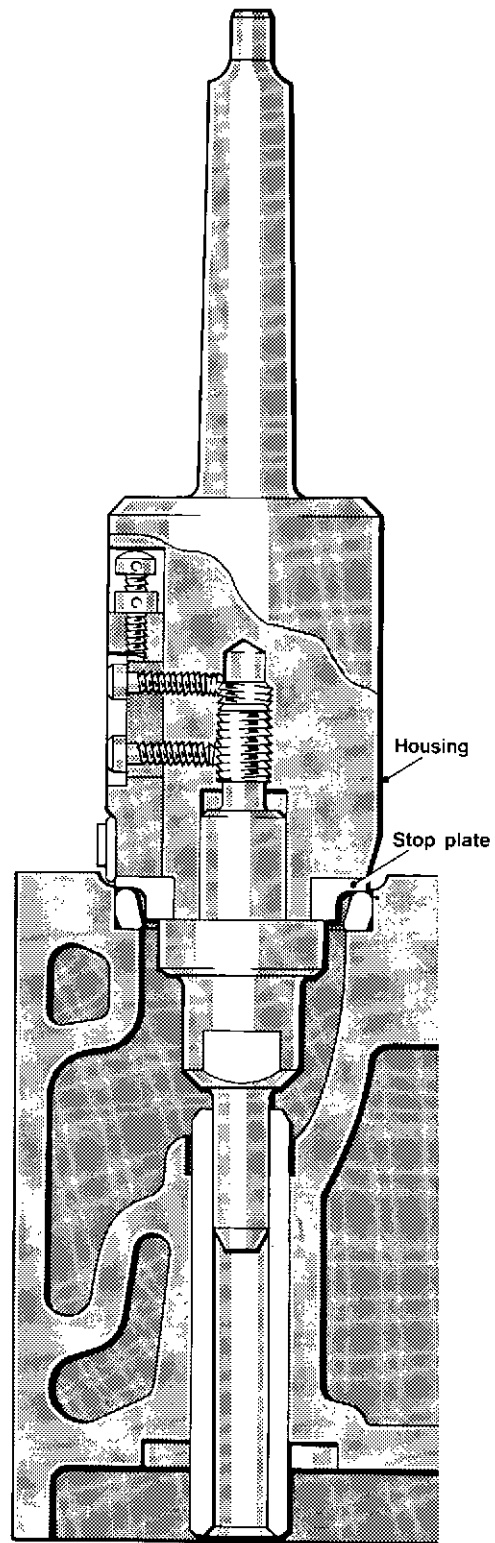

Fig 10 Rolling tool
- 48 Locate the rolling tool in the valve guide and rotate slowly, applying sufficient pressure to 'spread' the cylinder head material into the valve seat insert chamfer. When the tool stop plate contacts the top face of the insert (fig. 10), the insert is fully rolled in, and the tool should be removed.